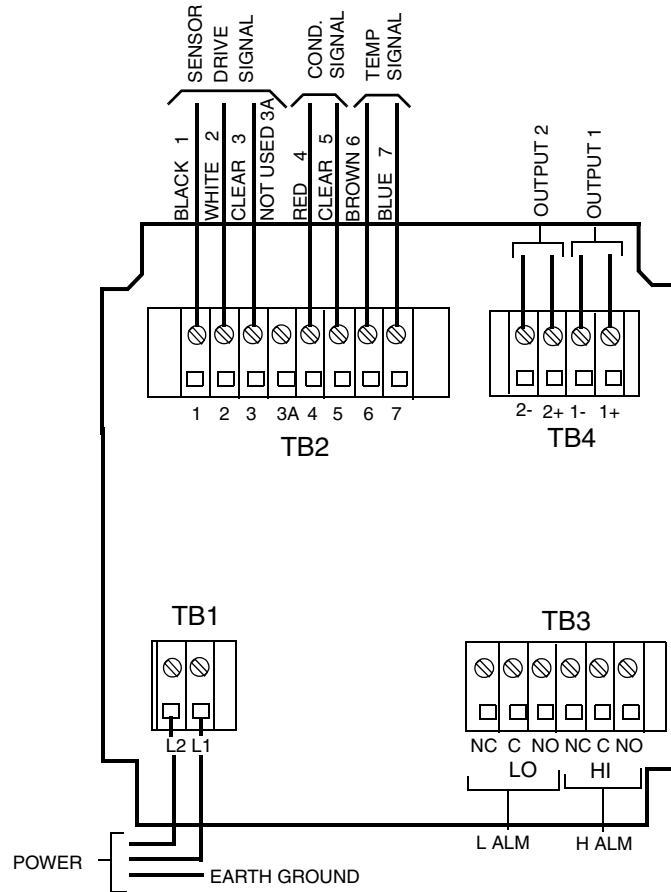

Figure 9. Rear Panel Wiring - Metal Enclosure
2. Connect Hi and Lo Alarm wires to TB3 as shown in Figure 9. Failsafe operation requires connections to be made between contacts NC and C, and the alarms to be configured active. Refer also to “General Information Alarms” on page 31.
4. Connect sensor wires to analyzer terminal block TB2 as shown in Figure 9.
5. Connect power wires to terminal block TB1 as indicated in Figure 9. The earth (ground) connection from the power cord should be connected to the ground stud located in the bottom of the case.